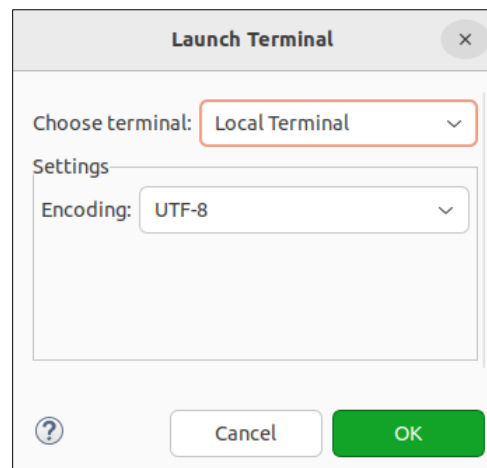

Figure 3.55. Launch Terminal Dialog 2
2. In the Terminal view, click the **Open a Terminal** icon . The **Launch Terminal** dialog opens (Figure 3.55).